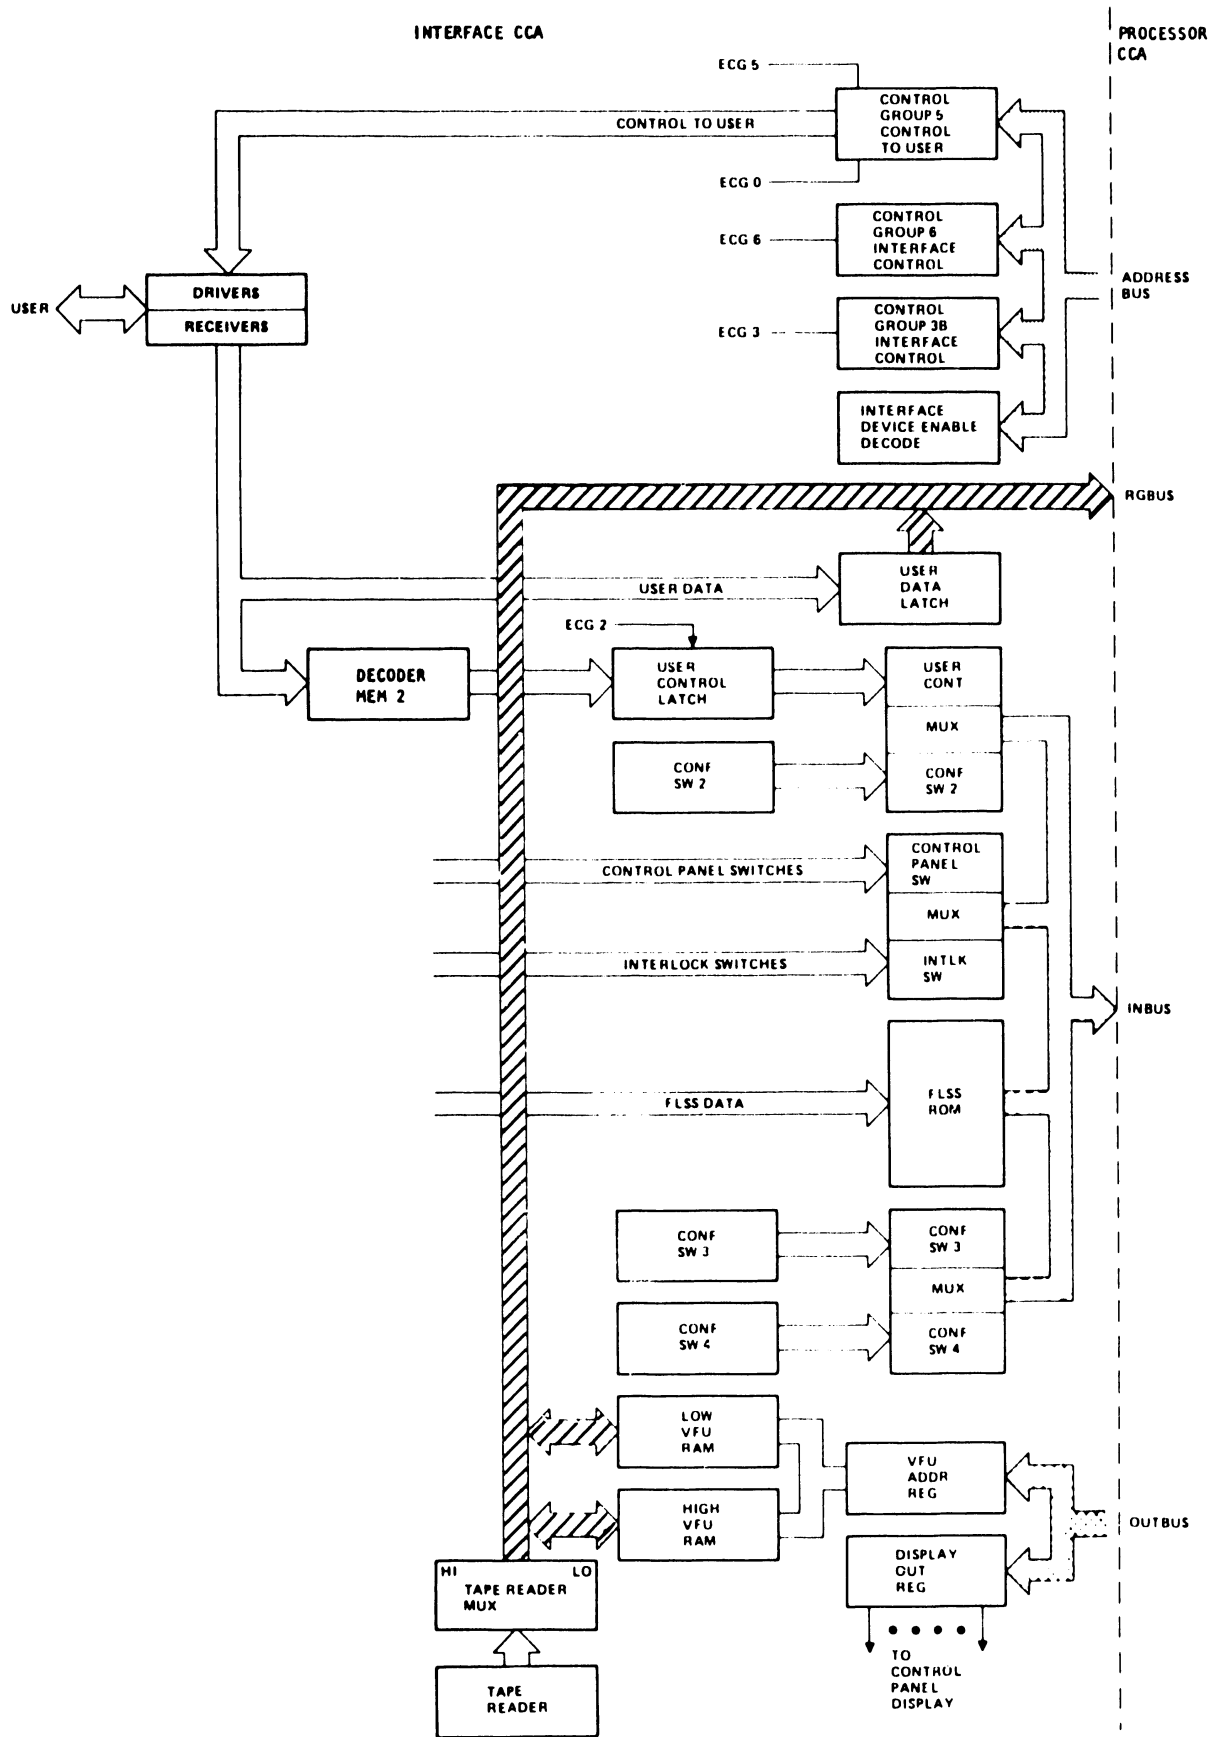

Figure 2-22. Centronics-Compatible Interface Block Diagram
2. Operational Description - The operational description for the Centronics-Compatible Interface CCA is divided into six (6) parts. The first part is a discussion of the control codes used by the printer and is followed by a description of the power up, user/interface data transfer, and interface/processor data transfer routines. The final sections deal with the STATUS Indicator displays which are unique to this interface option and the self-test mode. See paragraph 2.2.3 for a description of the Centronics-Compatible handshaking routine. Data flow is shown in figure 2-22.